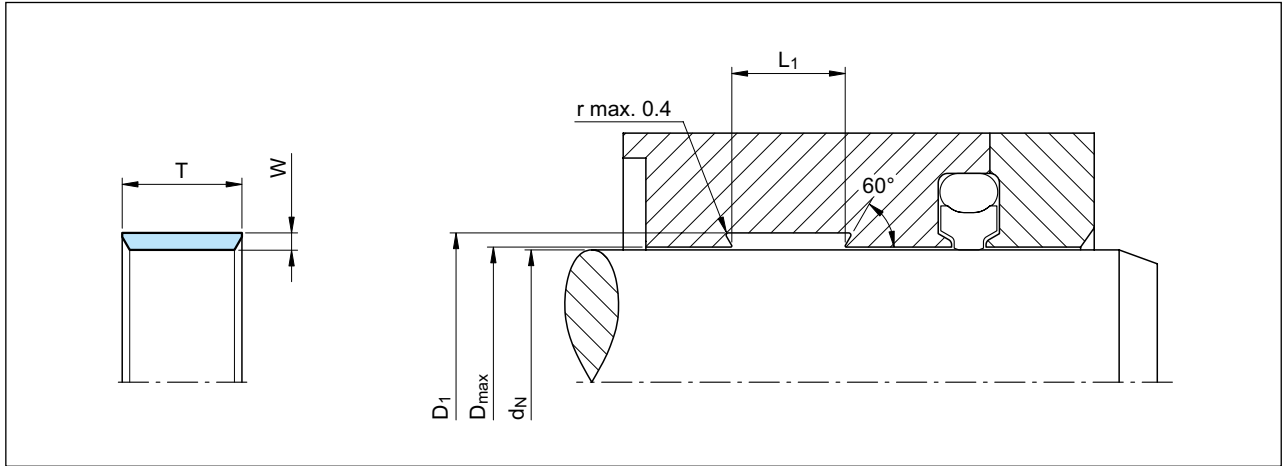
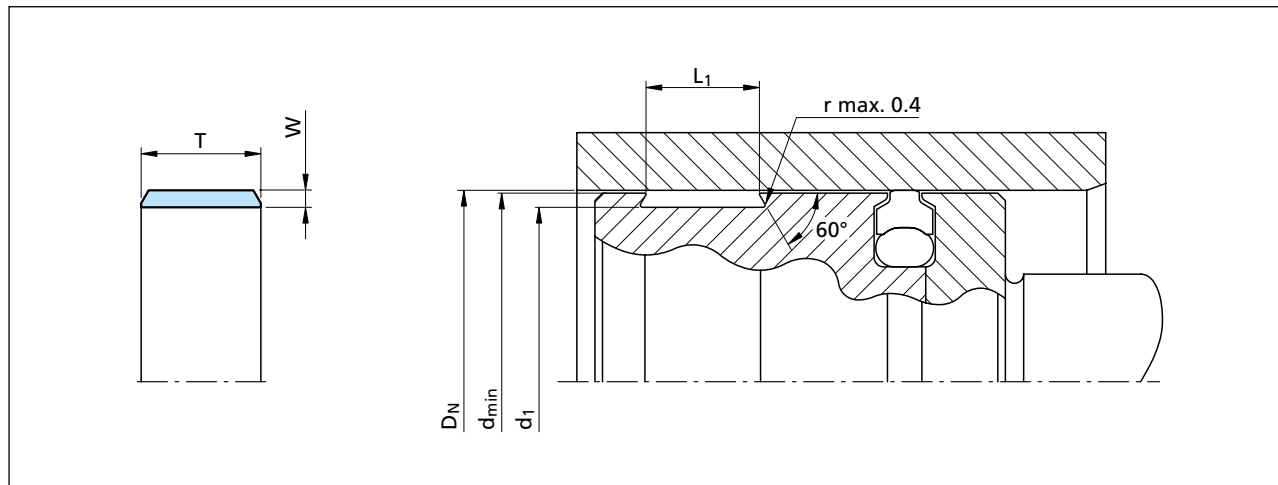

Figure 149 Installation Drawing
Figure 151 Installation Drawing
- Clearance: The maximum permissible radial clearance $D_{\max}$ and $d_{\min}$ depending on the sealing system used. See Figure 149 and Figure 151.